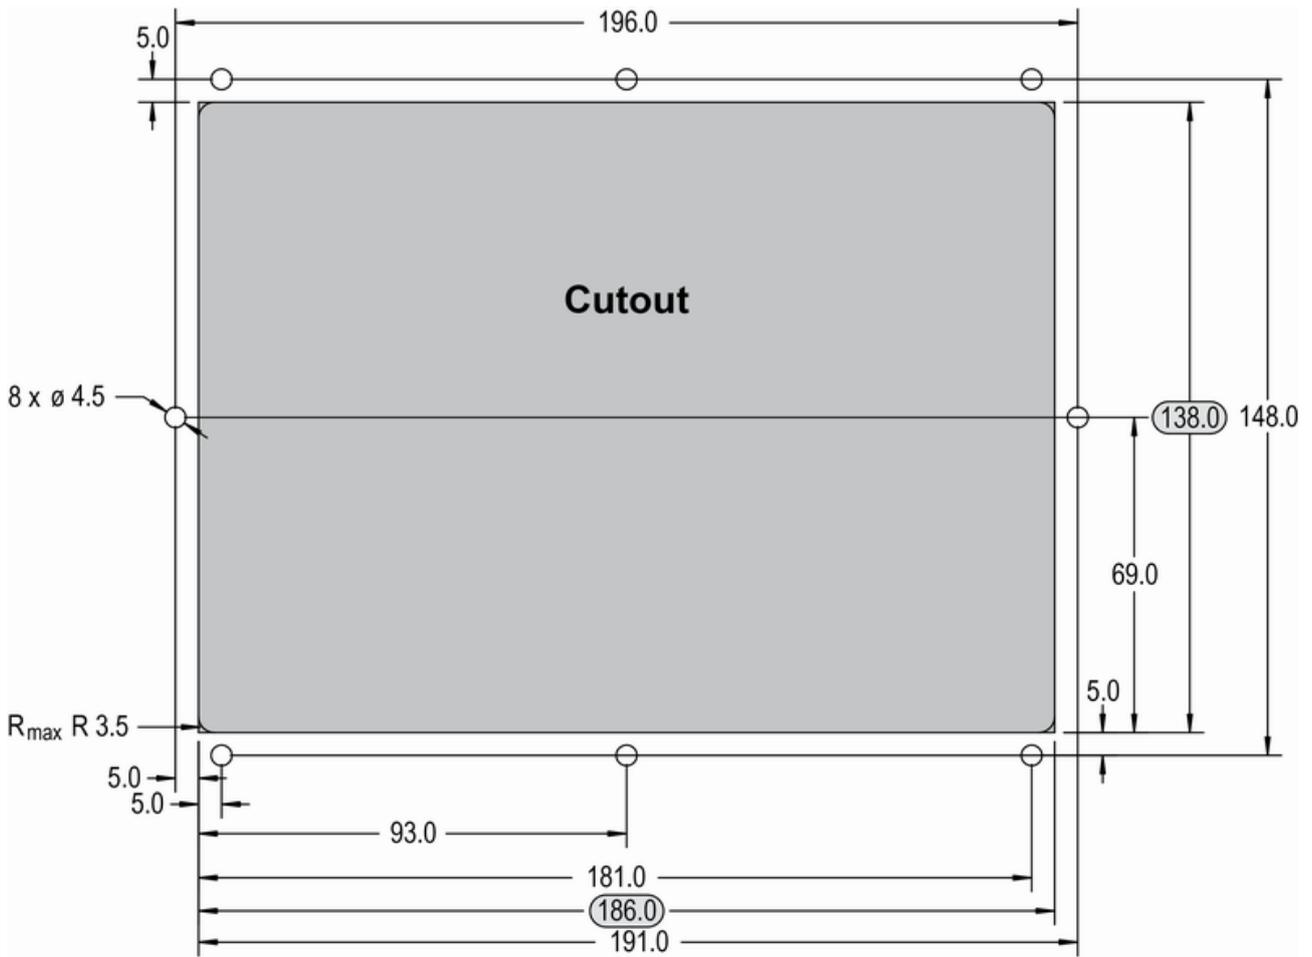

Fig. 17: Plastic housing - drill plan
The housing is equipped with 8 nut inserts (Fig. 17), which must all be tightened properly to achieve the required degree of protection.
1. ➤ Cut out the panel and drill the holes according to the dimensions in Fig. 17 (dimensions shown in mm).